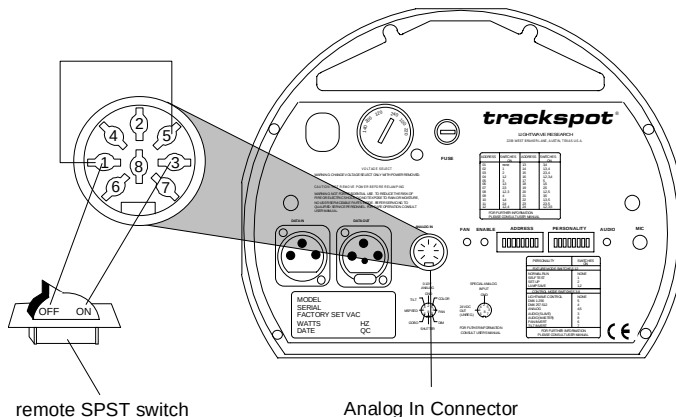

Figure 2-2. Connecting a remote enable/disable switch to the master fixture
2. Locate the female Analog In connector on the rear panel of the master Trackspot fixture (see Figure 2-2).
3. Connect DIN pin 1 and pin 5 together (see Figure 2-2). You can connect these pins either at the fixture or in the male 8-pin DIN connector.
4. Connect DIN pin 1 and pin 3 to the SPST switch (see Figure 2-2).
2. Locate the Analog In female connector on the rear panel of the master Trackspot fixture (see Figure 2-2).
3. Connect analog DIN pin 1 and pin 5 together (see Figure 2-2). You can connect these pins either at the fixture end or in the male 8-pin DIN connector.